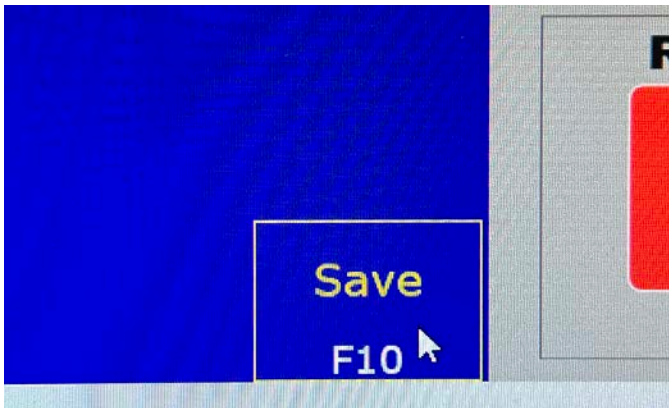

FIGURE 47
F. After you enter your value, click on Save F10 (see Figure 47).